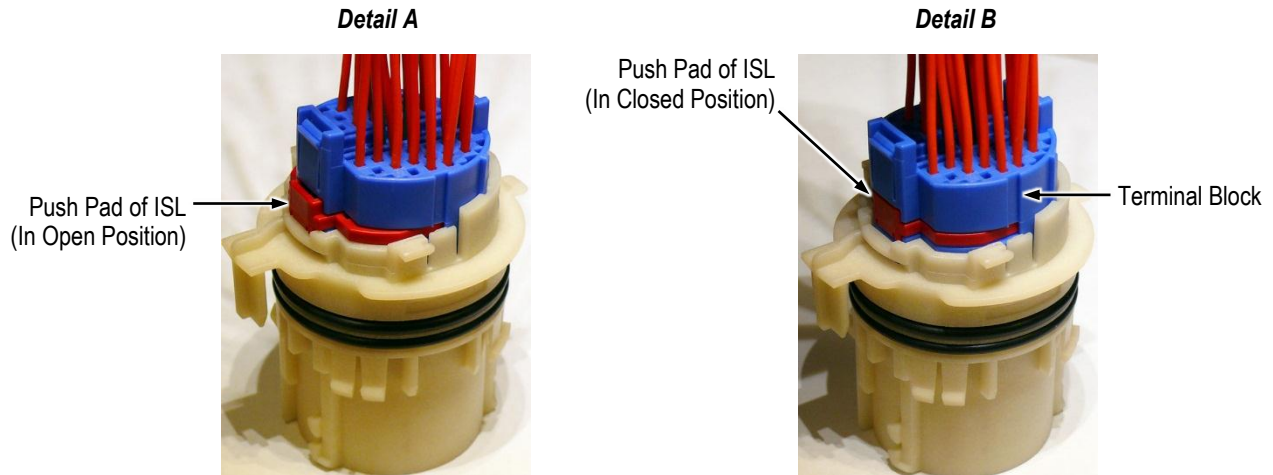

Figure 4
6. Follow step 3 through step 5 for the remaining terminals. After all terminals have been inserted, push the push pad of the ISL (see Figure 4, Detail A) until the ISL moves to the closed position. The ISL is in the closed position when it is flush with the terminal block. See Figure 4, Detail B.